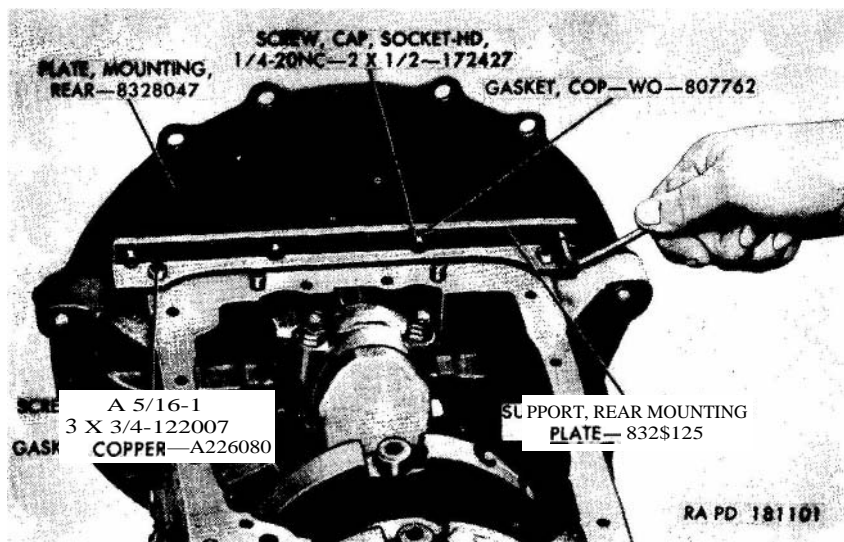

Figure 90. Tightening rear mounting plate support cap screws.
- b. Install two $\frac{5}{16}$ -18NC-3 x $\frac{3}{4}$ cap screws (fig. 90) and two copper gaskets to attach the rear mounting plate support to the underside of the cylinder block. Tighten the screws to 12-17 pound-feet torque.
c. Tighten the $\frac{1}{4}$ -20NC-2 x $\frac{1}{2}$ socket-head cap screws (fig. 90) attaching the rear mounting plate support to the rear mounting plate.